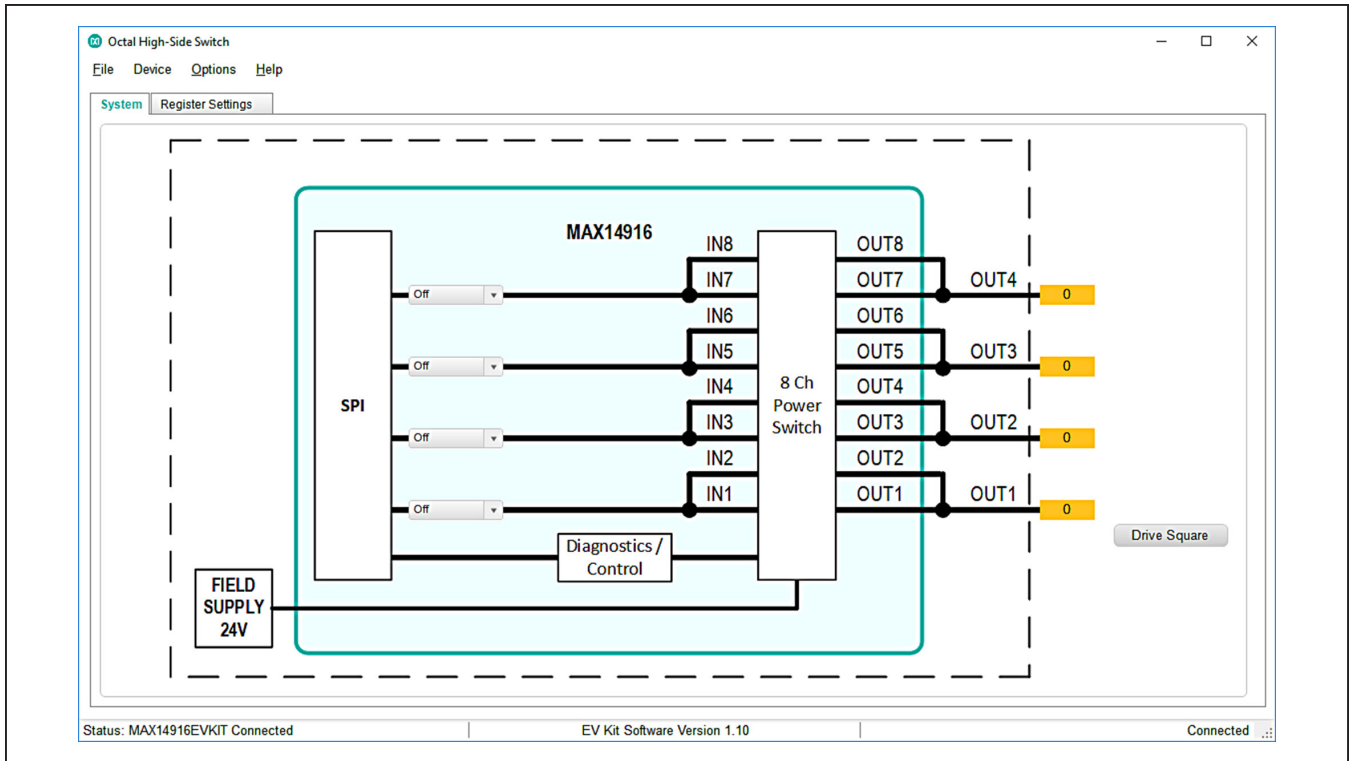

Figure 1. MAX14916 EV Kit GUI System Tab
- 6) Start the EV kit software by opening its icon in the **Start | Programs** menu. Select the MAX14916EVKIT button in the startup window. The EV kit software appears as shown in Figure 1. Verify that the lower-right status bar indicates the EV kit hardware is **Connected**. The GUI automatically detects EV kit is connected to the PC and enables serial communication. Any configuration change can be made on Register Settings tab. (The following steps are used to verify functionality of the MAX14916)